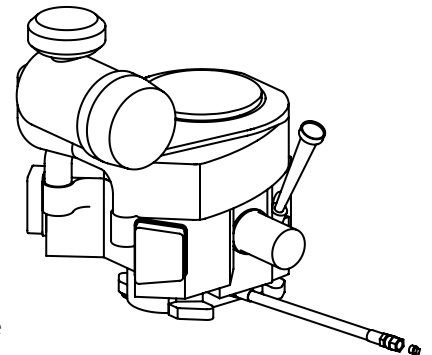

Figure 10
2. Locate the oil drain hose on the engine. See Figure 10.
4. While holding the free end of the oil drain hose over the oil collection container, unscrew the square-head hose plug from the end of the hose. See Figure 10. Drain the engine oil into the collection container.